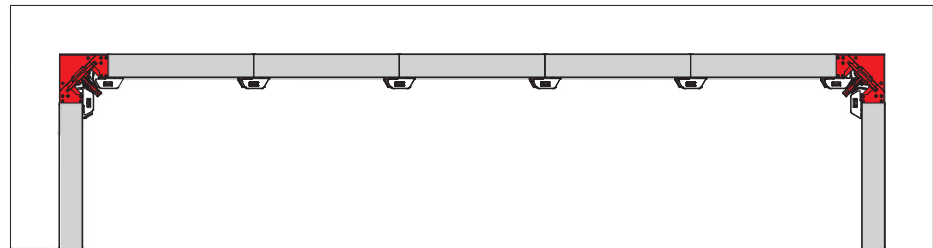

Fig. 41.1
1. Remove the AS assembly locks connecting the stripping corners to the panels (Fig. 41.1).